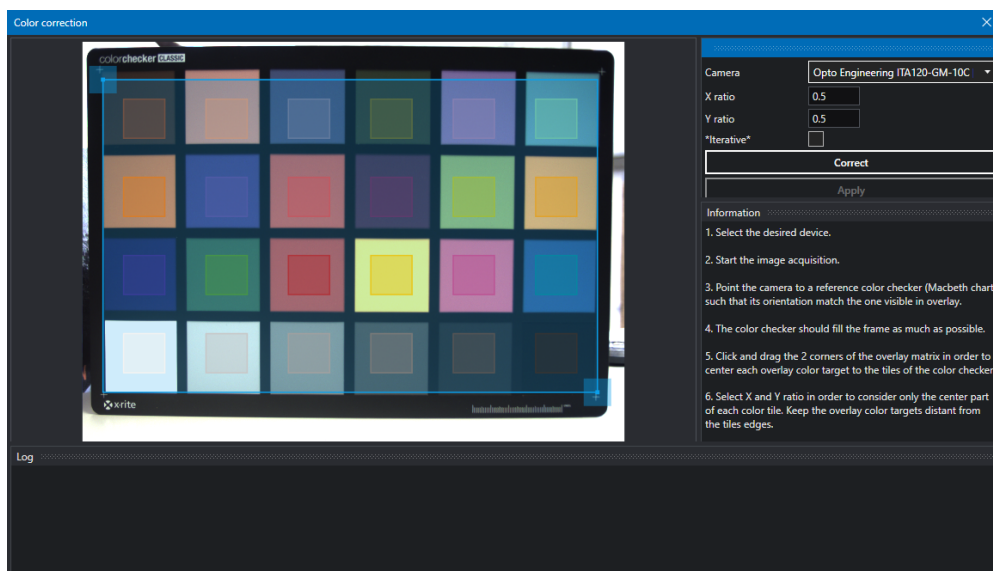

Figure 23: For optimal results, make sure to align the wizard color mask to the Macbeth color chart tiles.
5. The color checker should fill the frame as much as possible (Fig.23).